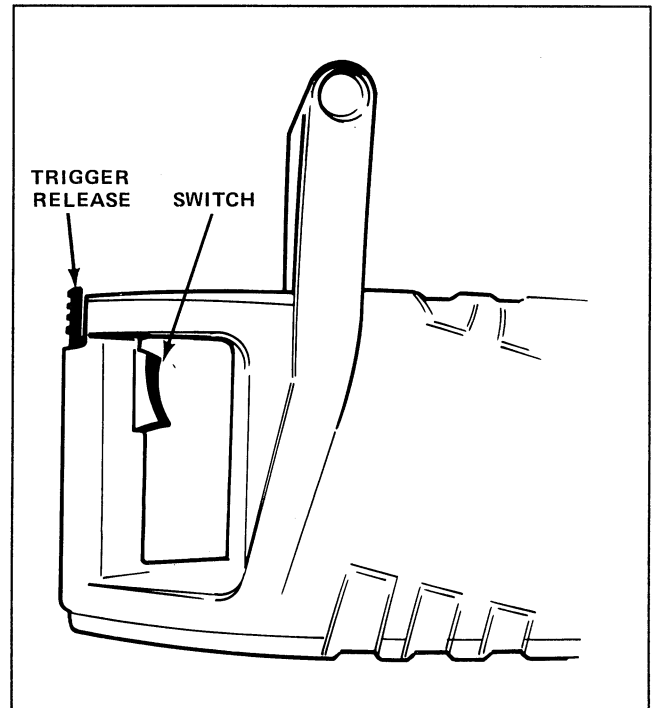

Figure 9
3. Balance the trimmer in one hand using the U-shaped handle. Operate the trigger release and the switch with the other hand (Fig. 9).